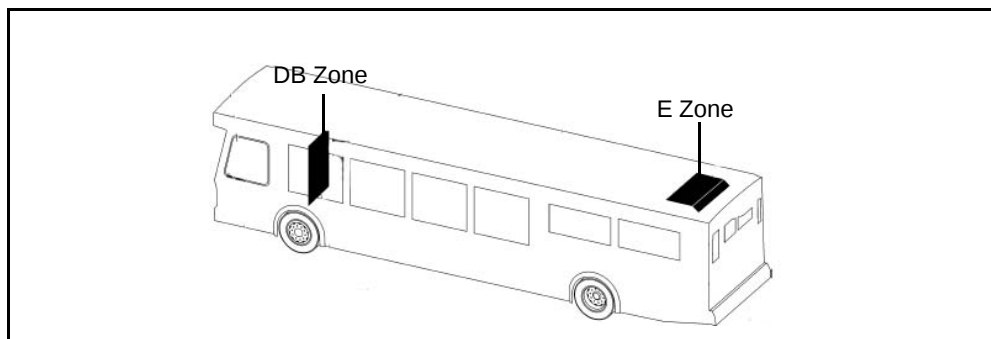

Figure 1-5 Orion VII Converter Access Panels
3. Access the interior bus panels to locate applicable converter. **See Figure 1-5.**